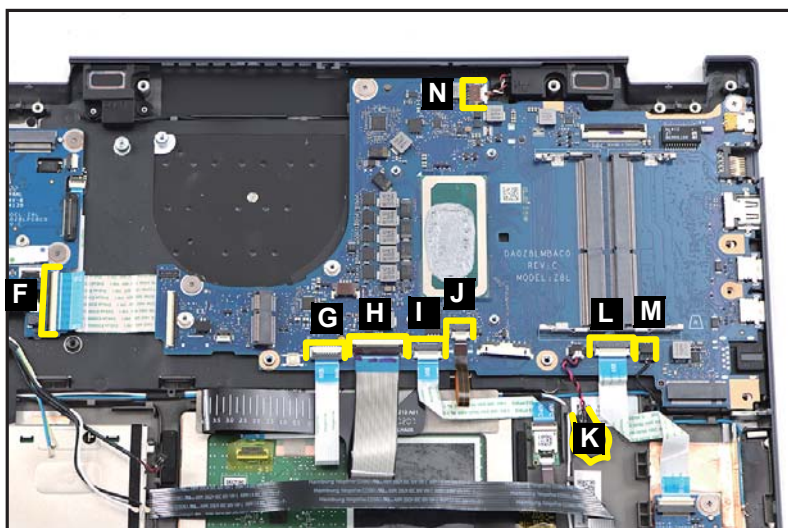

Figure 1-42. Mainboard Removal
4. Disconnect the DB FFC from the LTE board connector (F) (Figure 1-42).
5. Disconnect the touchpad FFC from the mainboard connector (G) (Figure 1-42).
6. Disconnect the keyboard FPC from the mainboard connector (H) (Figure 1-42).
7. Disconnect the NFC FFC from the mainboard connector (I) (Figure 1-42).
8. Disconnect the keyboard backlight FPC from the mainboard connector (J) (Figure 1-42).
9. Pry to detach the adhesive tape underneath the RTC battery (K) (Figure 1-42).
10. Disconnect the card reader board FFC from the mainboard connector (L) (Figure 1-42).
11. Disconnect the left speaker cable from the mainboard connector (M) (Figure 1-42).
12. Disconnect the rear speaker cable from the mainboard connector (N) (Figure 1-42).